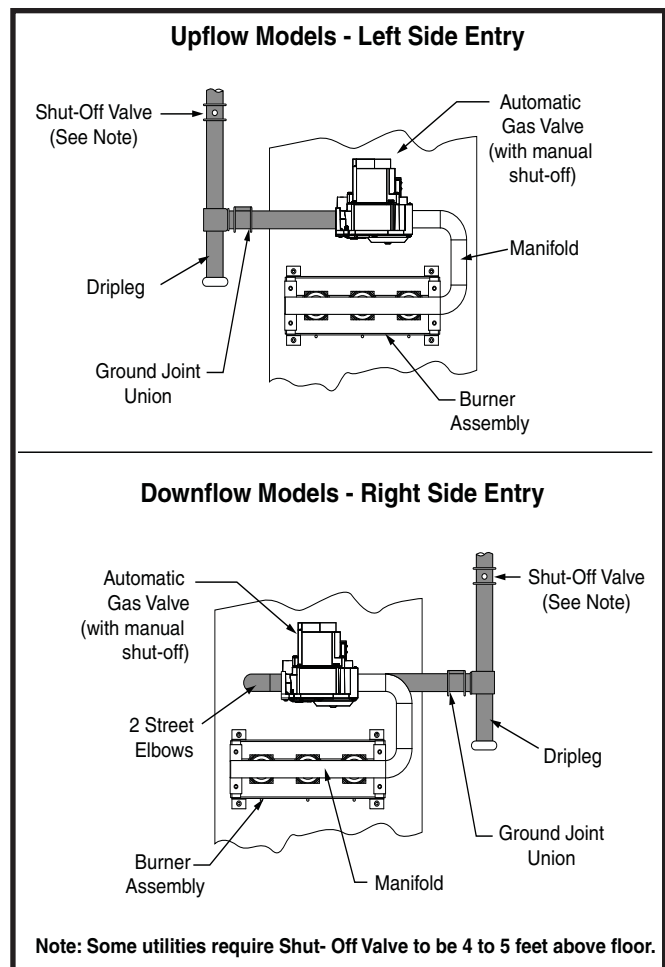

Figure 11. Typical Gas Connection
- Some local regulations require the installation of a manual main shut-off valve and ground joint union external to the furnace as depicted in Figure 11. The shut-off valve should be readily accessible for service and/or emergency use. Consult the local utility or gas supplier for additional requirements regarding placement of the manual main gas shut-off.
- A drip leg should be installed in the vertical pipe run to the unit (Figure 11).
The furnace may be installed for either left or right side gas entry. When connecting the gas supply, provide clearance between the gas supply line and the entry hole in the furnace casing to avoid unwanted noise and/or damage to the furnace. A typical gas service hookup is shown in Figure 11.